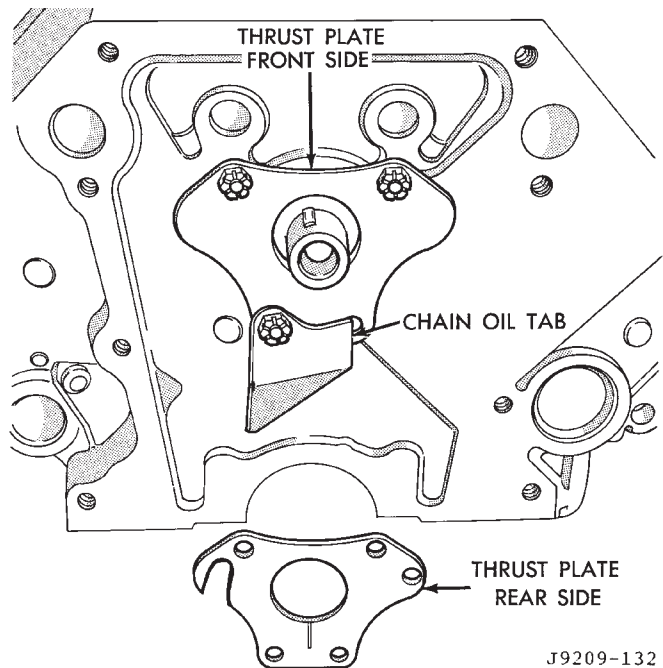

Fig. 29 Timing Chain Oil Tab Installation
- (1) Remove intake manifold.
- (2) Remove cylinder head covers.
- (3) Remove timing case cover and timing chain.
- (4) Remove rocker arms.
- (5) Remove push rods and tappets. Identify each part so it can be installed in its original location.
- (6) Remove distributor and lift out the oil pump and distributor drive shaft.
- (7) Remove camshaft thrust plate, note location of oil tab (Fig. 29).
(8) Install a long bolt into front of camshaft to facilitate removal of the camshaft. Remove camshaft, being careful not to damage cam bearings with the cam lobes.